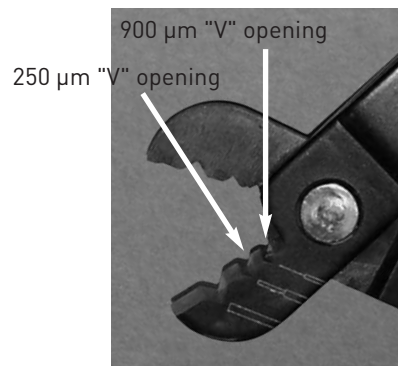

Fig. 1
Step 1. (Fig. 1) Insert fiber into 250 μ m "V" opening of the tool.